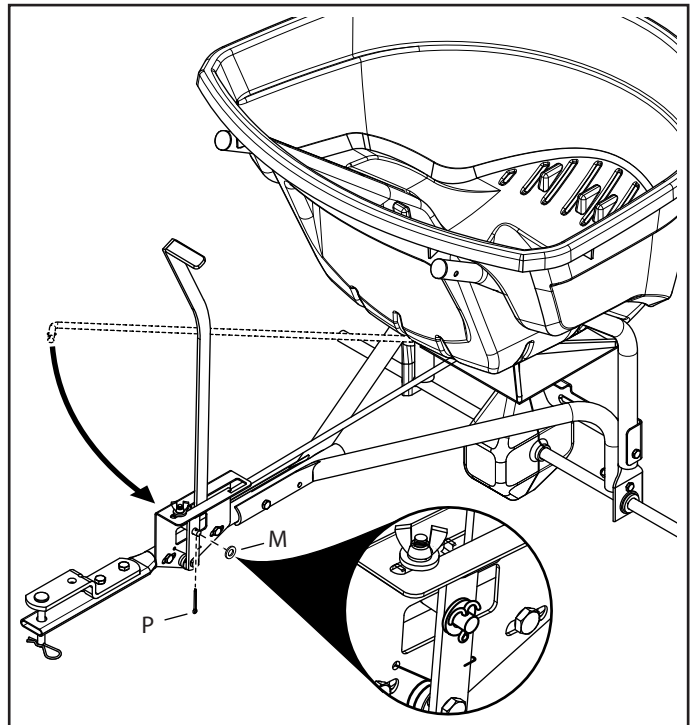

FIGURE 12
STEP 12: (SEE FIGURE 12)
- Swing the flow control rod around and insert the end of the rod into the flow control arm. Secure it with a 1/4" washer (M) and a 3/32" x 3/4" cotter pin (P).